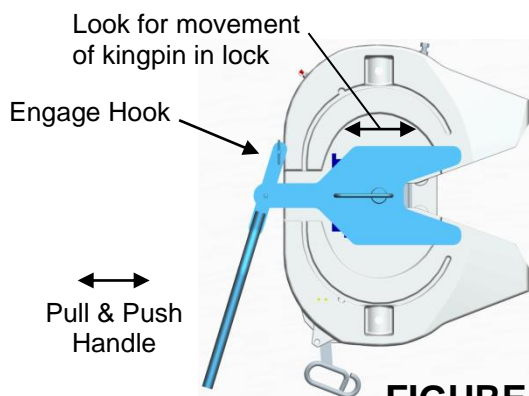

FIGURE 5
2. THE LOCK IS TOO LOOSE IF: You feel fore-aft play when pulling and pushing on the lock tester handle (see figure 5)